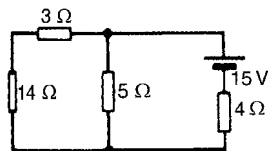

Figure 13.48
- 1 Use Thévenin's theorem to find the current flowing in the 14 Ω resistor of the network shown in Fig. 13.48. Find also the power dissipated in the 14 Ω resistor.